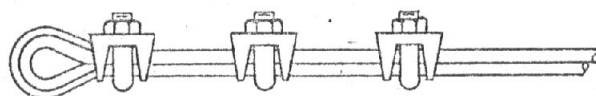

Figure 3. U-Bolt Wire Clips
- (1) The correct method of attaching U-bolt wire clips to rope ends is shown in Figure 3. The base of the clip bears the live end of the rope, while the "U" of the bolt presses against the dead end.
- (2) The clips are usually spaced about six rope diameters apart to give adequate holding power.
- (3) Before the rope is placed under tension, the nuts on the clips should be tightened. It is advisable to tighten them again after the load is on the rope to take care of any reduction in the rope's diameter caused by the weight or tension of the load.
- (4) A wire rope thimble should be used in the loop eye to prevent kinking when wire rope clips are used. For 9/16 diameter rope, three clips should be used spaced $3\frac{1}{2}$ inches apart.